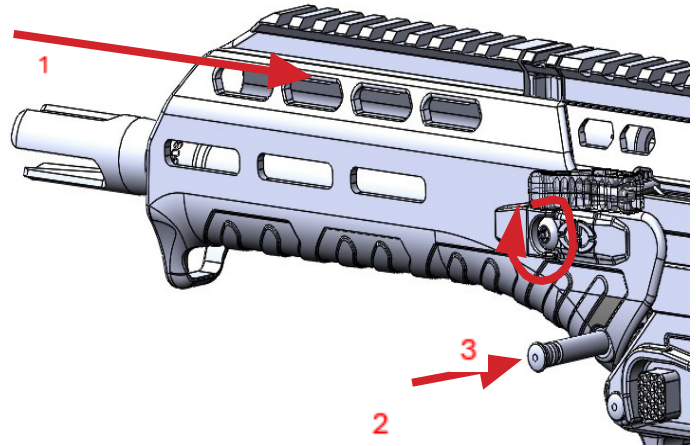

Figure 10: Handguard Installation
1. Install the handguard on the WLVRN by sliding it over the barrel assembly, Desert Tech logo end first, with the rail at the 12 o'clock position. (Figure 10)
2. Push the captured handguard retention pin through the left side to the right side of the WLVRN receiver until it snaps into position, flush on each side. (Figure 10)
3. Tighten handguard retention screws with a torque wrench, using a T25 head, to 30 in/lb. (Figure 10)